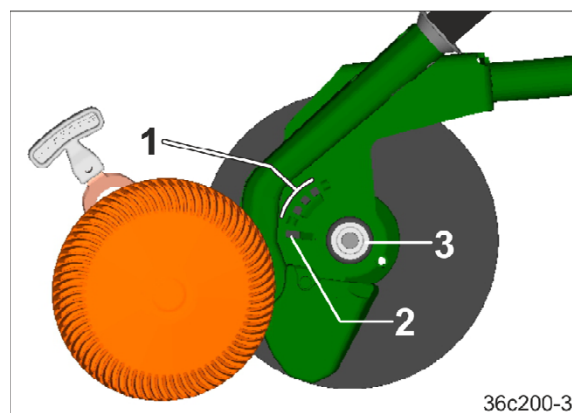

Fig. 133
1. Insert the coulter disc onto the locking mechanism (Fig. 133/3). In doing so, the shoulder of the coulter body engages in the elongated slot (Fig. 133/2).
2. Push the coulter disc into the elongated slot (Fig. 133/2) until the coulter disc engages in the locking mechanism. A light knock on the centre of the disc helps to latch it into position.
3. Pull the shoulder out of the elongated slot using the lever and allow it to engage in the catch (Fig. 133/1).